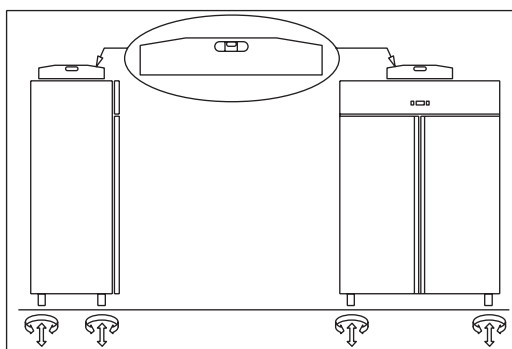

Fig.5
- position the refrigerated cabinet using a level with possible adjustment of the feet of the metal base (Fig. 5)
- position the refrigerated cabinet as described above (Fig. 5)